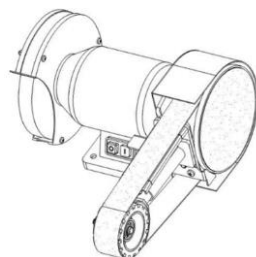

Fig. 12
3. Once completed, it should resemble Fig. 12.